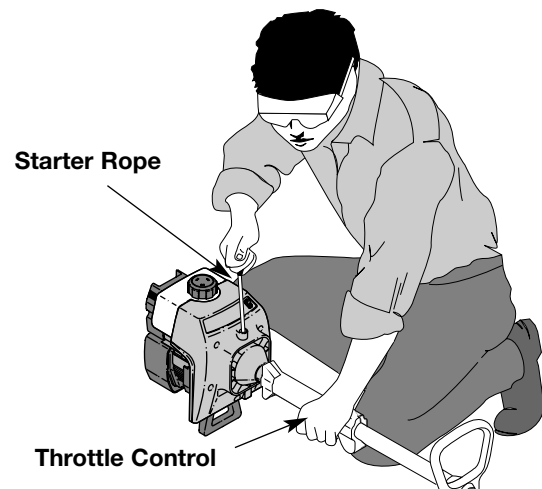

Figure 9
**WARNING:** Avoid accidental starting. Be in the starting position when pulling the starter rope. See Figure 9. The operator and unit must be in a stable position while starting to avoid serious personal injury.
5. With the unit on the ground, squeeze the throttle control and pull starter rope briskly. See Figure 9. Continue pulling until the engine sounds as though it wants to run (normally 2 to 5 pulls).
7. Pull starter rope briskly 1 to 3 times to start the engine. See Figure 9.
1. Release your hand from the throttle control. See Figure 9. Allow the engine to cool down by idling.